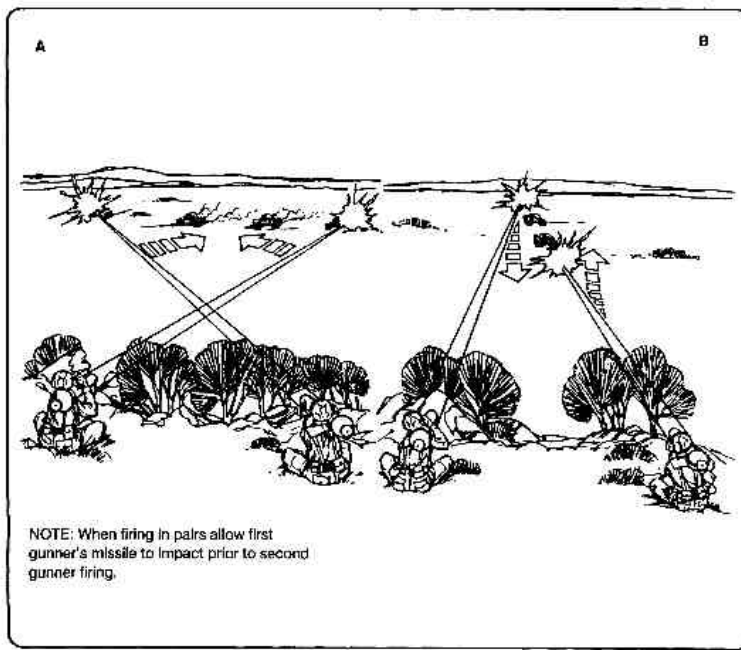

Figure 3-25. Fire patterns.
e. Fire Patterns. Fire patterns describe the relationship between firing Dragons and their targets. These patterns can be used in fire commands or fire plans, within the section or within the team. They can also be used with other control measures such as priority of fires. Two basic patterns are cross fire and depth fire. (See Figure 3-25.)
(1) *Crossfire*. Cross fire is used when targets are dispersed laterally or obstructions prevent the Dragon from firing to the front. When using cross fire, gunners must stagger their fires. When the first missile impacts, the next gunner may fire. Cross fire prevents either gunner from picking up the other missile's infrared flare (trying to guide two missiles or the wrong missile). Cross fire is also used to obtain flank shots, which are desirable; it increases the chance of a kill and assists in avoiding detection when the enemy is moving straight at the Dragon. Each Dragon engages a target at a diagonal to its position, with flank Dragons engaging targets on the opposite flank. As targets are destroyed, fire is shifted to the center of the enemy formation. (See A, Figure 3-25.)
(2) *Depth fire*. Depth fire is used when targets are exposed in depth. Dragons on one side engage the nearest targets, while Dragons on the other side engage the farthest targets. Fire is then shifted toward the center of the formation. This can be done by unit SOP or as specified in the section leader's order. (See B, Figure 3-25.)
adjusts his formation after being engaged to ensure maximum coverage of an enemy formation. (See Figure 3-25.)